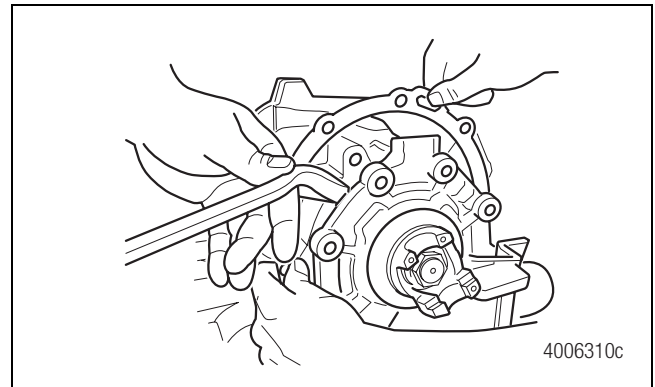

Figure 5
- Use a pry bar and mallet to loosen the input cage cover. Figure 5.
- Remove the shim pack. Figure 5.